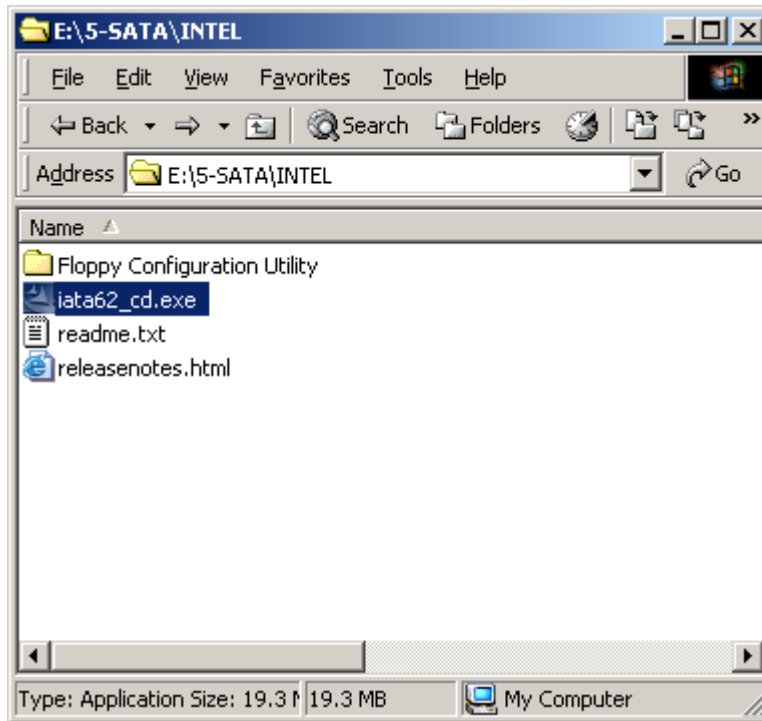

Figure 7-37: SATA RAID Setup Program Icon
Step 4: Double-click the **iata62_cd.exe** program icon in **Figure 7-37**.